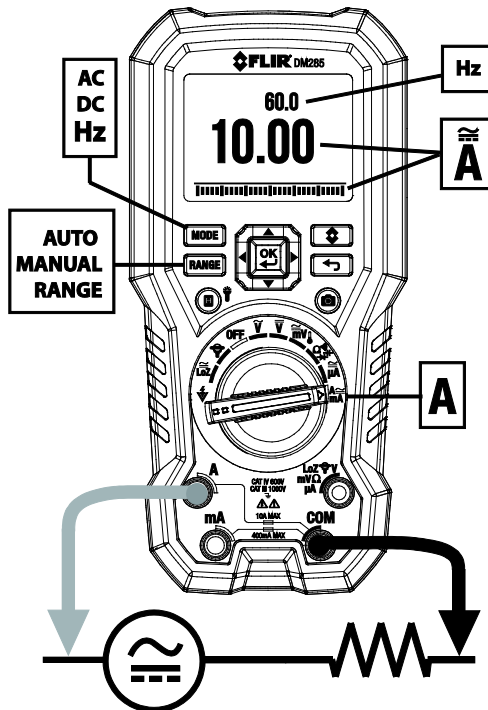

Fig. 9-9 High Current 'A' Measurements
- Connect the probe leads in series with the part in accordance with **Fig. 9-8** and **Fig. 9-9** for 'A' measurements, **Fig. 9-10** for mA measurements, or **Fig. 9-11** for μ A measurements.